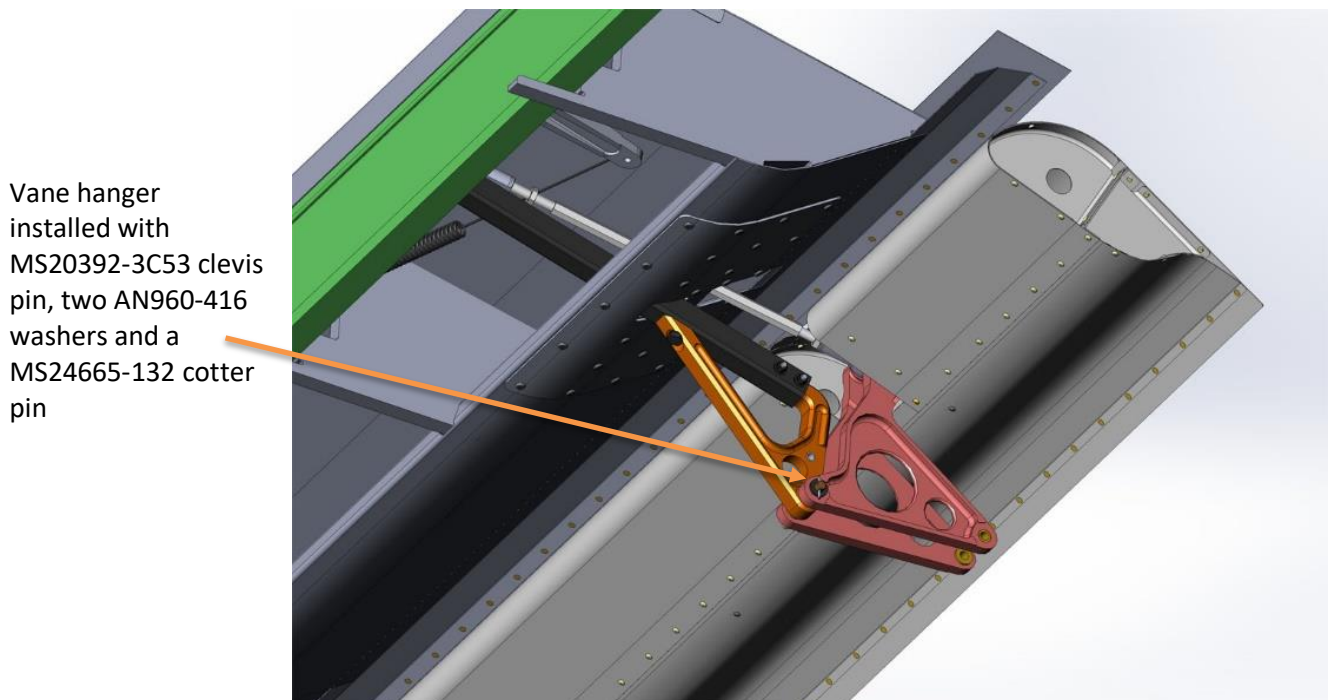

Figure 14: Inboard Vane hanger installed on flap hanger extender
22. Mount the first element, the vane (PSTOL-0015), to the wing. Note that there are left and right flap elements. The end with the shorter distance from the flap hinge to the end of the flap element is the inboard end. Each vane hanger is mounted with an MS20392-3C53 clevis pin, two AN960-416 washers (one on each side of hinge) and an MS24665-132 cotter pin. See Figure 14.